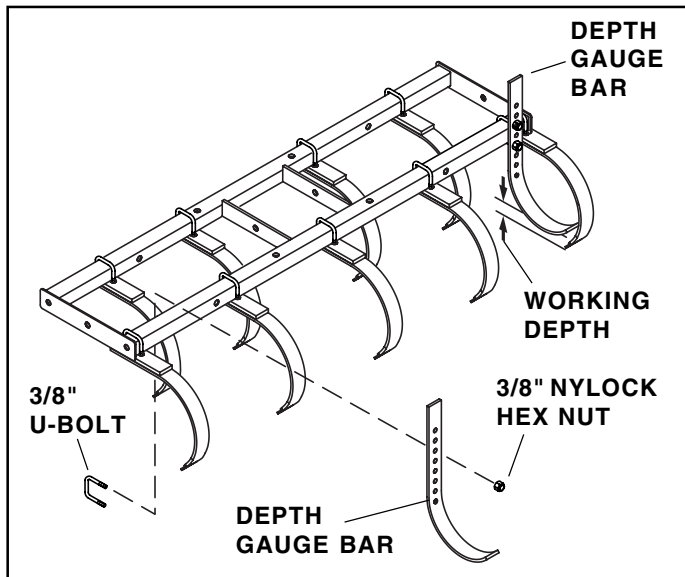

FIGURE 1
1. Attach two depth gauge bars to the frame using a 3/8" U-bolt and two 3/8" Nylock hex nuts for each bar. Put each depth gauge bar next to each outside tang on the rear of the frame as shown in figure 1. Use the holes in each bar that will give the desired working depth, if known at this time. Use matching holes in both depth gauge bars to keep the cultivator level.